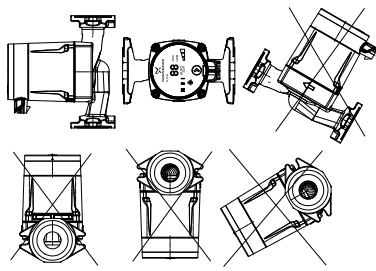

Fig. 2 Installation positions
- Install the pump with the motor shaft horizontal; see fig. 2.